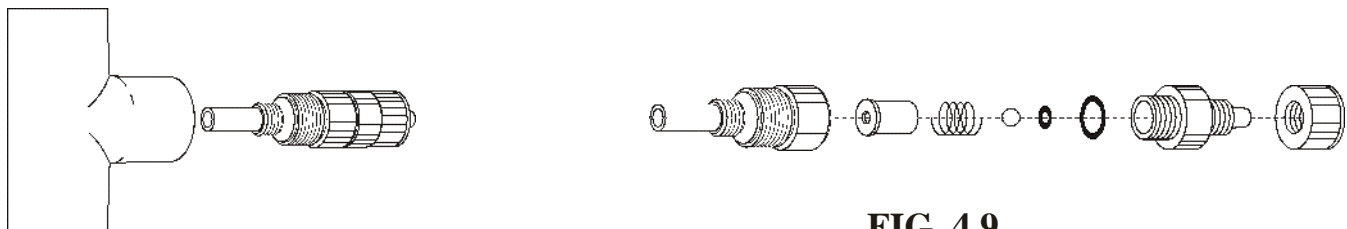

FIG. 4.9
Trim the other end of the outlet tube leaving only enough slack to connect it to the Injection/Check valve Fitting (FIG. 4.9). Increasing the length of the outlet tube increases the back pressure at the pump head, particularly when pumping viscous fluids.
- ^g Periodically clean the injection/check valve assembly, especially when injecting fluids that calcify such as sodium hypochlorite. These lime deposits and other build ups can clog the fitting, increase the back pressure and interfere with the check valve operation. See section 4.3.4. FIG. 4.9.